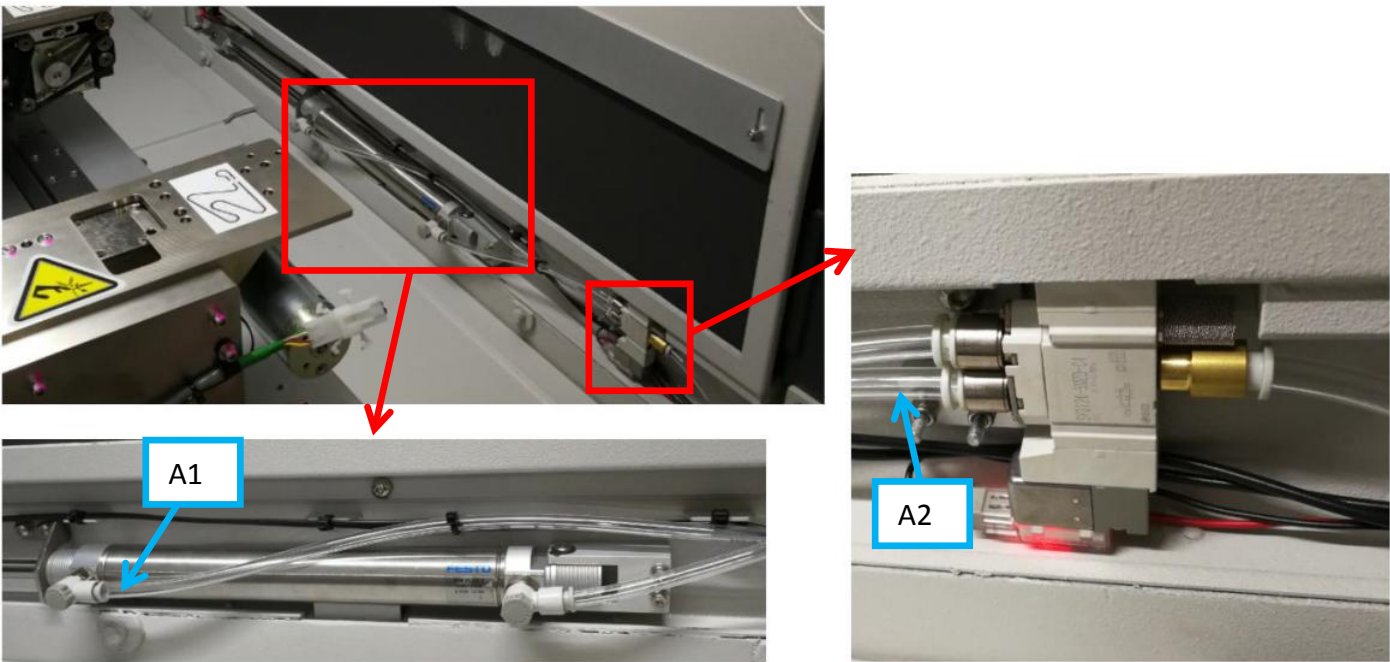

Figure 15
17. Cut 2 x tubing (PN : 2860-0003) into desire length by refer to below Figure 15. Plug 2 x Tubing by refer to below orientation.